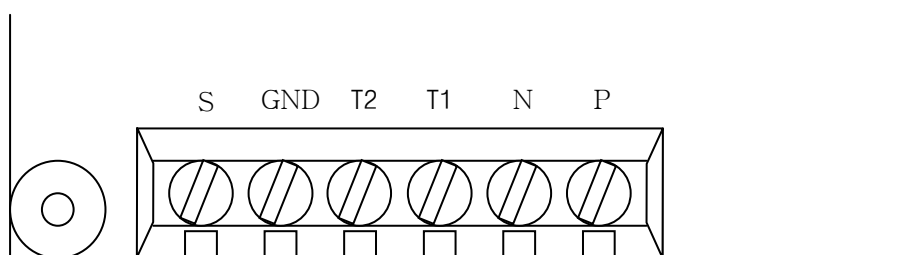

Figure 3. Termination Configuration
- ⑦ Power down the inverter for the connection of converter when step⑥ is finished.
- ⑧ If the inverter is to be placed at the end of the network trunk line, install a jumper on the option card to enable the termination resistor (120 Ω). (See the Figure 3).